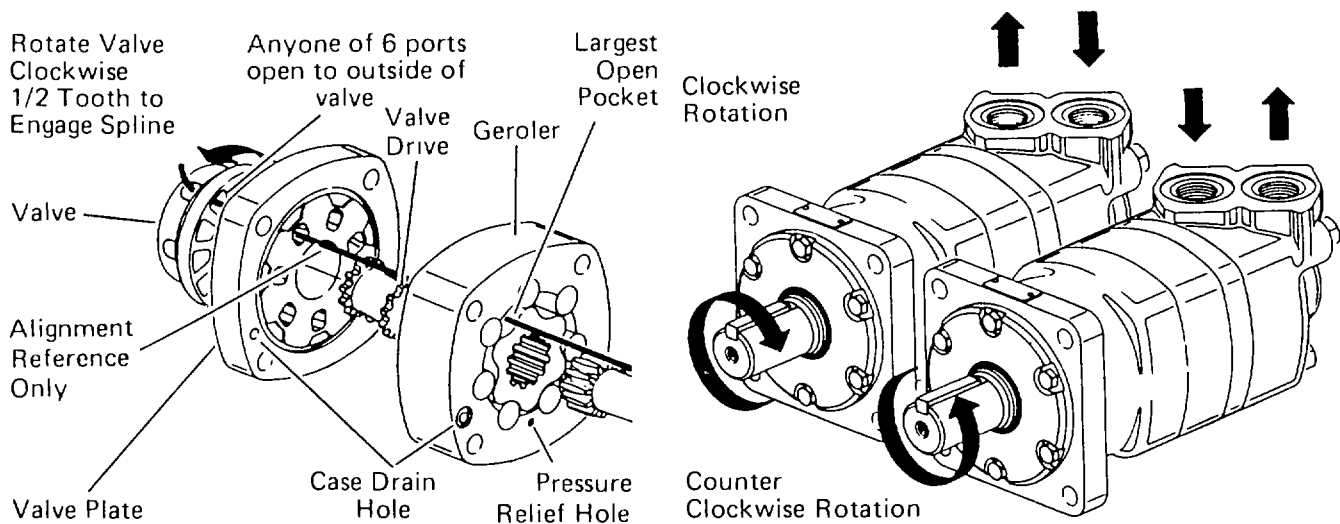

Figure 4-45A. Timing the Winch Motor
- a. Place the bearing housing (31) on a smooth, flat surface with the largest open end of the housing up. Aline the small inside diameter end of a seal driver (Tool No. 600469) with the shaft face seal (30) and press the seal into the seal seat of the bearing housing.
- b. Install the shaft and bearing kit (29) in the bearing housing. Be careful not to damage the seal in the housing. It may be necessary to use a press to install the shaft and bearing kit. Using a press, install the dust seal (28) in the front retainer (25). Then, install the shaft seal (27) and seal (26) in the retainer. Apply a light petroleum jelly to the inside diameter of the shaft seal and dust seal.
- c. Place a protective sleeve over the shaft. To prevent damage to seals, install retainer (25) over shaft part of shaft and bearing kit (29) with a twisting motion. Do not cut or distort shaft seal-such would cause external leakage. Lightly oil the threads of six bolts (24) and install through retainer holes into the bearing housing. Tighten bolts, first to 50 inch pounds in the following sequence: first-12 o'clock, second--6 o'clock, third--10 o'clock, fourth--4 o'clock, fifth--8 o'clock, and sixth-2 o'clock; final torque to 300 inch pounds, repeating the sequence.
- e. Apply a light film of petroleum jelly on the seal (19) and install in bearing housing (31). Install drive (23) in output shaft, longer splined end first. Apply petroleum jelly to two small seals (22) and install seals in geroler. Apply petroleum jelly to the valve plate seal (19) and install in valve plate (18).
- f. Assemble the valve (17), valve plate (18), valve drive (20), and geroler (21) as shown in Detail A of Figure 4-45A to correctly time the motor. This is important to the correct rotation of the output shaft.